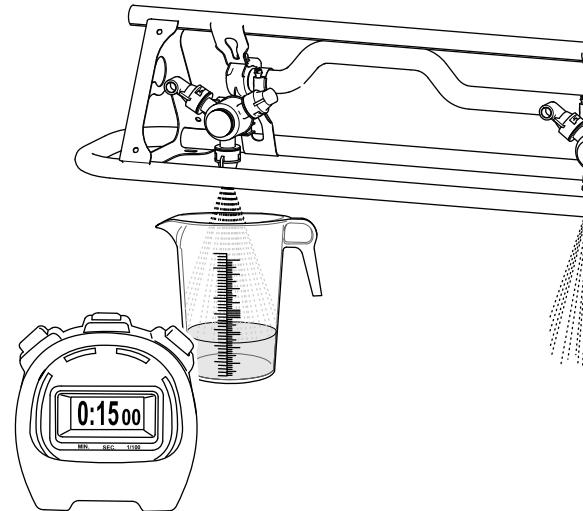

Figure 170
3. Move to the back of the machine, place the catch container under 1 of the nozzles, and start the stopwatch (Figure 170).